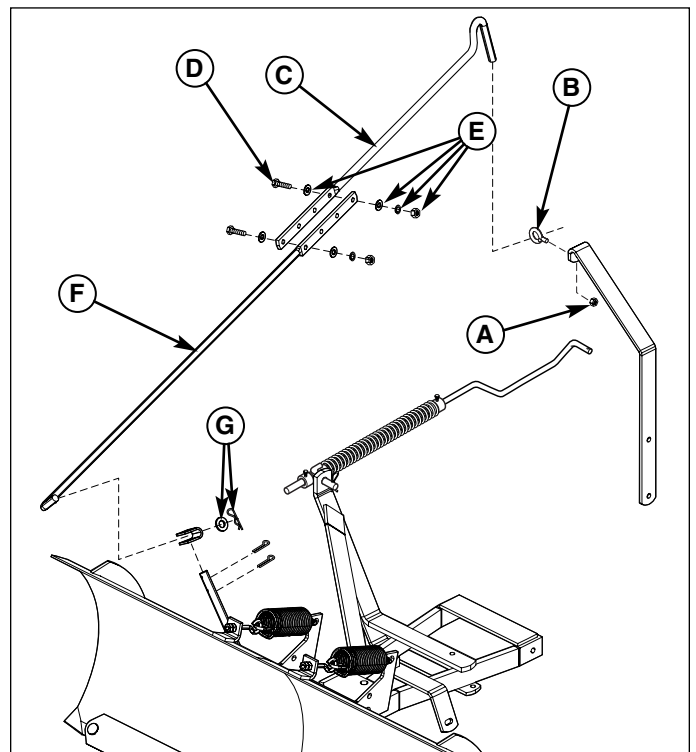

Figure 14. Assemble Control Rods
3. Connect the lower angling rod (F, Figure 14) to the dozer release lever using a hair pin clip and washer (G).
4. Insert the upper control rod (C) through the eyelet (B), and secure the eyelet to the support using a 1/4-20 centerlock nut (A).
NOTE: It may be necessary to leave the eyebolt nut (A, Figure 14) loose to prevent binding.